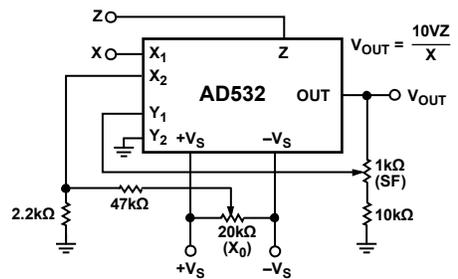

Figure 16. Divider Connection
Accuracy in the divide mode is only a little more complex. To achieve division, the multiplier cell must be connected in the feedback of the output op amp as shown in Figure 16. In this configuration, the multiplier cell varies the closed-loop gain of the op amp in an inverse relationship to the denominator voltage. Therefore, as the denominator is reduced, output offset, bandwidth, and other multiplier cell errors are adversely affected. The divide error and drift are then $\epsilon_m \times 10 V / (X_1 - X_2)$, where ϵ_m represents multiplier full-scale error and drift and $(X_1 - X_2)$ is the absolute value of the denominator.
The AD532 can be configured as a two-quadrant divider by connecting the multiplier cell in the feedback loop of the op amp and using the Z terminal as a signal input, as shown in Figure 16. It should be noted, however, that the output error is given approximately by $10 V \epsilon_m / (X_1 - X_2)$, where ϵ_m is the total error specification for the multiply mode and bandwidth by $f_m \times (X_1 - X_2) / 10 V$, where f_m is the bandwidth of the multiplier. Further, to avoid positive feedback, the X input is restricted to negative values. Thus, for single-ended negative inputs (0 V to -10 V), connect the input to X and the offset null to X₂; for single-ended positive inputs (0 V to +10 V), connect the input to X₂ and the offset null to X₁. For optimum performance, gain (SF) and offset (X₀) adjustments are recommended as shown and explained in Table 5.